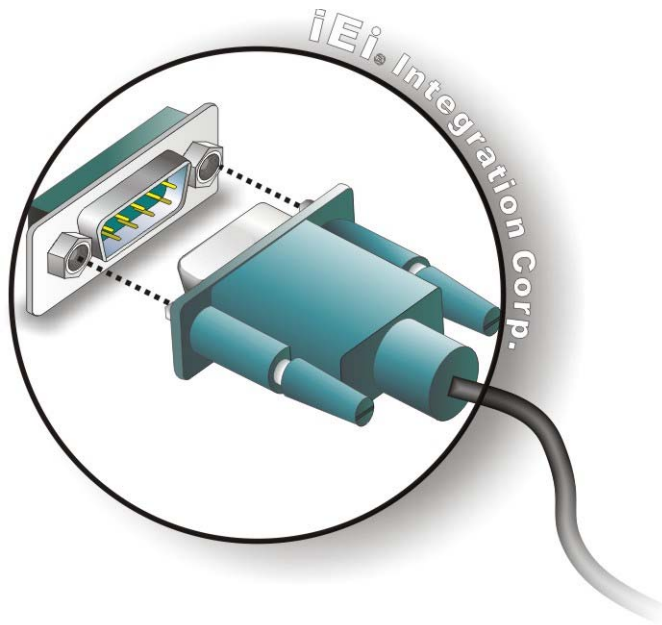

Figure 3-17: Serial Device Connector
Step 1: **Insert the serial connector.** Insert the DB-9 connector of a serial device into the DB-9 connector on the external peripheral interface. See **Figure 3-17**.